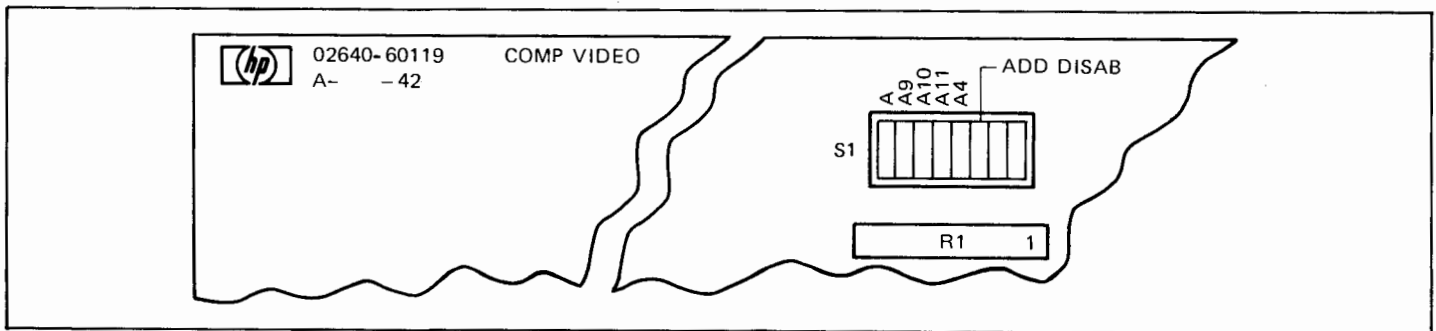

Figure 3-18. Video Interface PCA Jumper Locations
1. If a printer accessory is present in the terminal, close switch SIF (figure 3-18). If no printer accessory is used in the terminal, set switches SIB, SIC, SID, and SIF to select the video interface PCA address (1101) as shown below (this address is shared with the parallel printer interface).